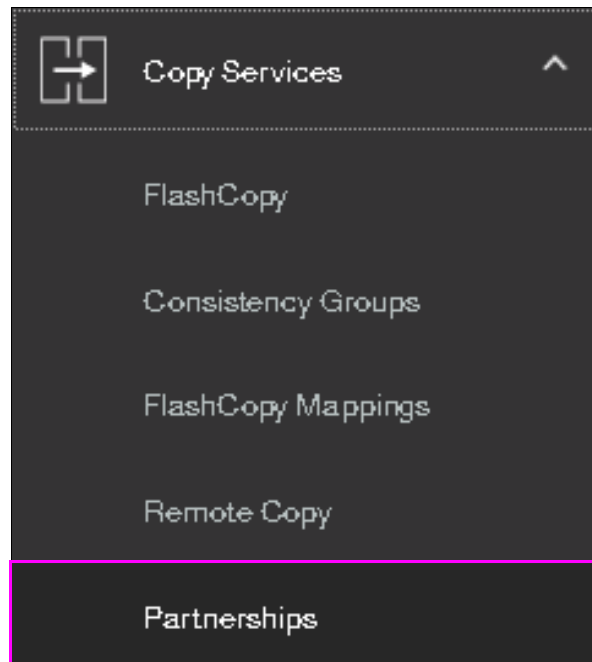

Figure 10-91 Selecting Partnerships
1. From the main navigation pane, click **Copy Services** → **Partnerships** as shown in Figure 10-91.